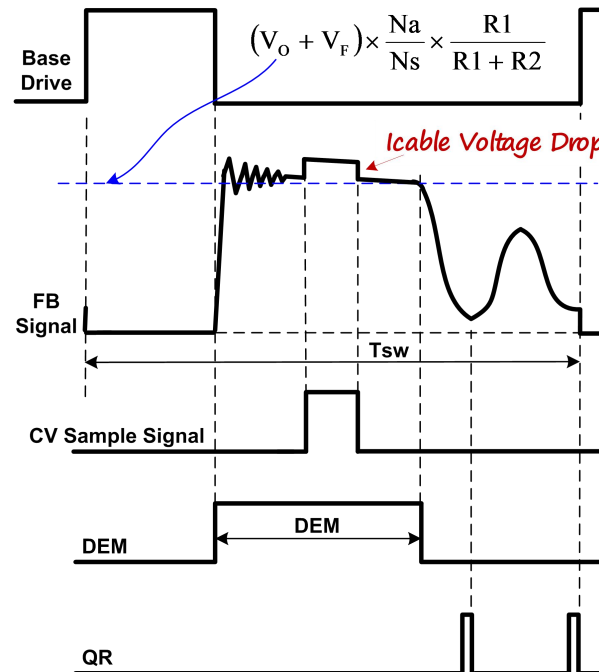

Fig.2
In Primary Side Regulation (PSR) control, the output voltage is sensed on the auxiliary winding during the transfer of transformer energy to the secondary. Fig.2 illustrates the timing waveform of CV sampling signal, demagnetization signal (DEM) and quasi-resonant (QR) trigger signal in DP2525B. When the CV sampling process is over, the internal sample/hold (S&H) circuit captures the error signal and amplifies it through the internal Error Amplifier (EA). The output of EA is sent to the Quasi Resonant PSR CV Modulator (QR-CVM) for CV regulation. A valley is selected to trigger new PWM cycle by the output of the QR-CVM block, which is determined by the load. The internal reference voltage for EA is trimmed to 2V with high accuracy.
During the CV sampling process, an internal variable current source is flowing to FB pin for Cable Drop Compensation (CDC). Thus, there is a step at FB pin in the transformer demagnetization process, as shown in Fig.2. Fig.2 also illustrates the equation for “demagnetization plateau”, where  $V_o$  and  $V_f$  is